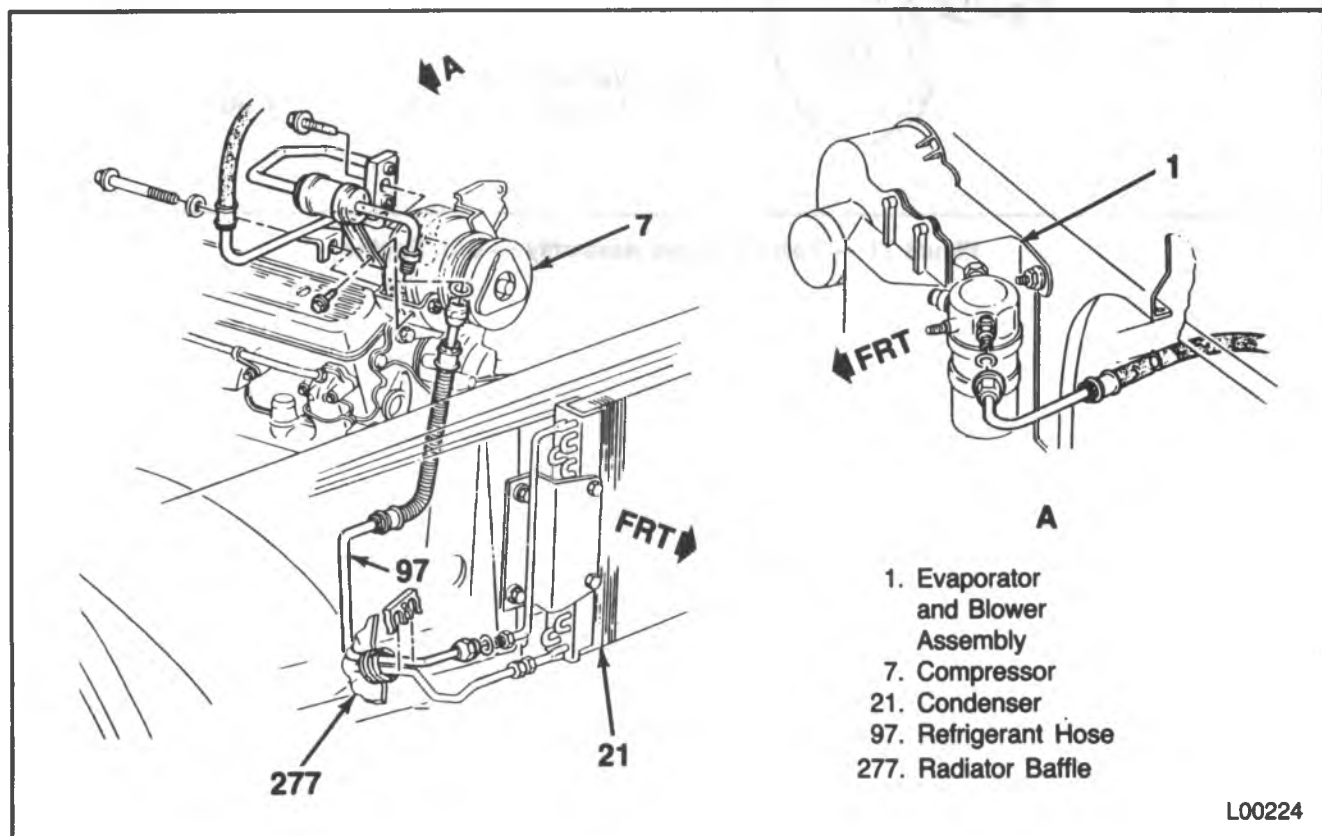

Figure 73 — 4.3L, 5.0L, 5.7L (TBI) and 7.4L Engine Refrigerant Hose Assembly
1. 4.3L, 5.0L, 5.7L (TBI) and 7.4L Engines (figure 73).